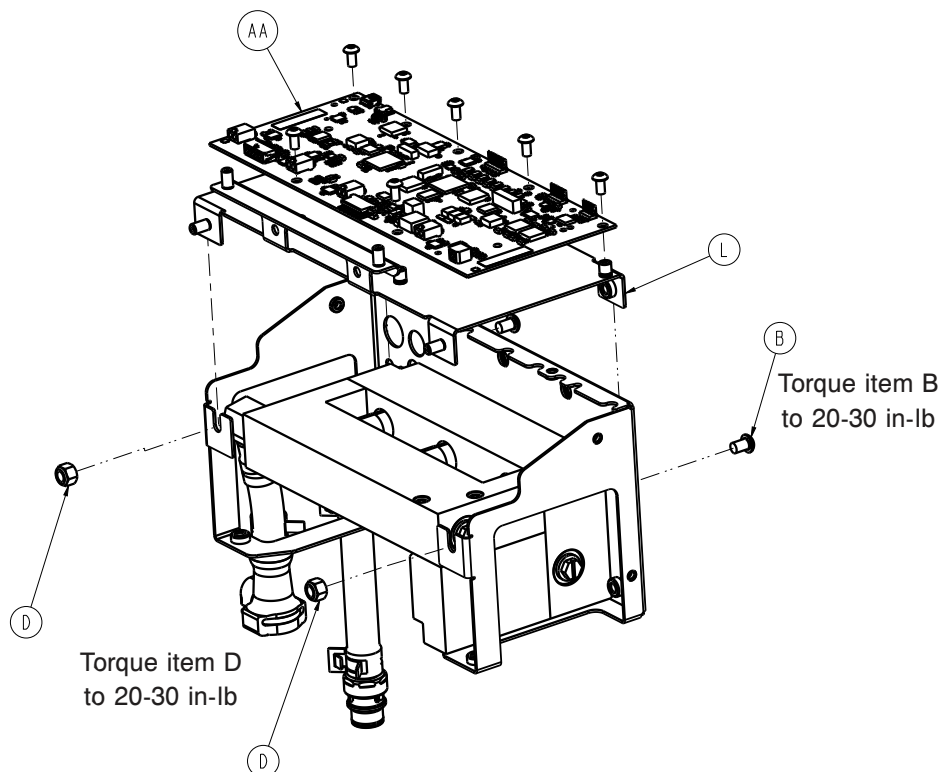

Figure 43: MCB bracket
15. Using a T27 torx, remove and save the two screws (B) (Figure 43 on page 58) that secure the MCB bracket to control assembly bracket.